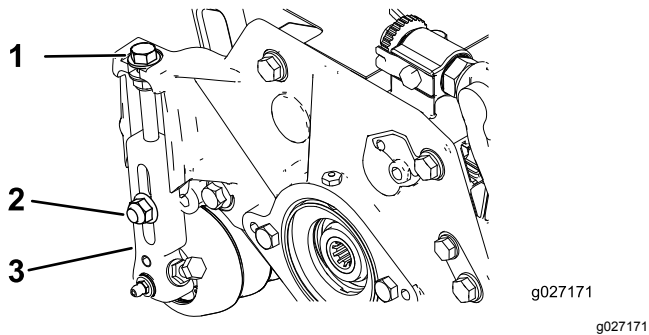

Figure 15
1. Loosen the locknuts securing the height-of-cut arms to the cutting-unit side plates (Figure 15).